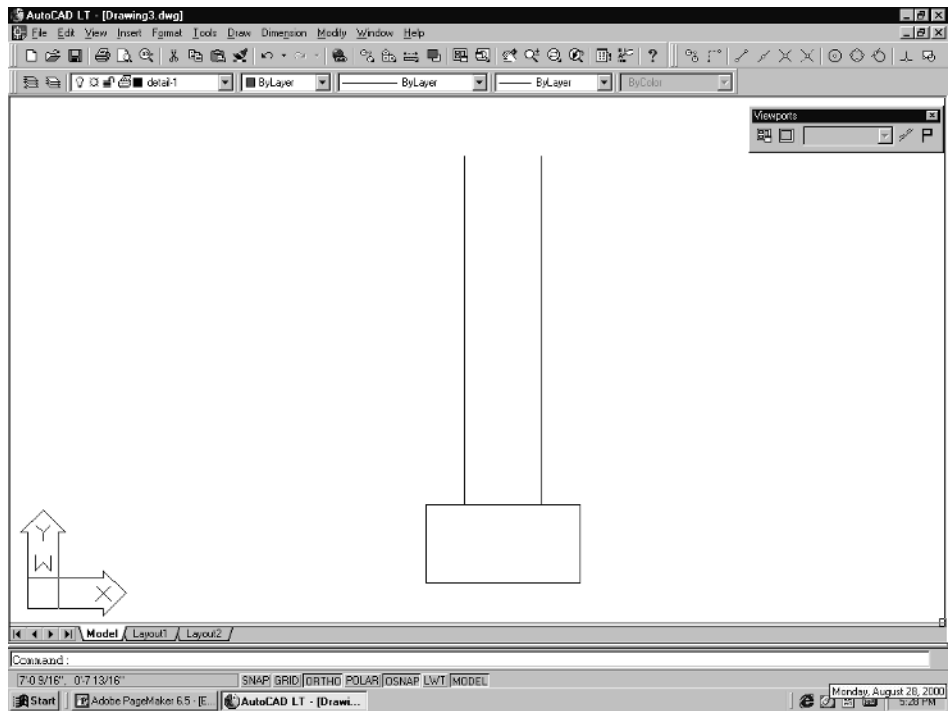

Figure 5-32
9. Now, draw a line **36"** up from the midpoint of the top horizontal line of the footing. Next, offset that vertical line **4"** to each side. This forms the CMU wall. Erase the center line. The detail should look like Figure 5-32.